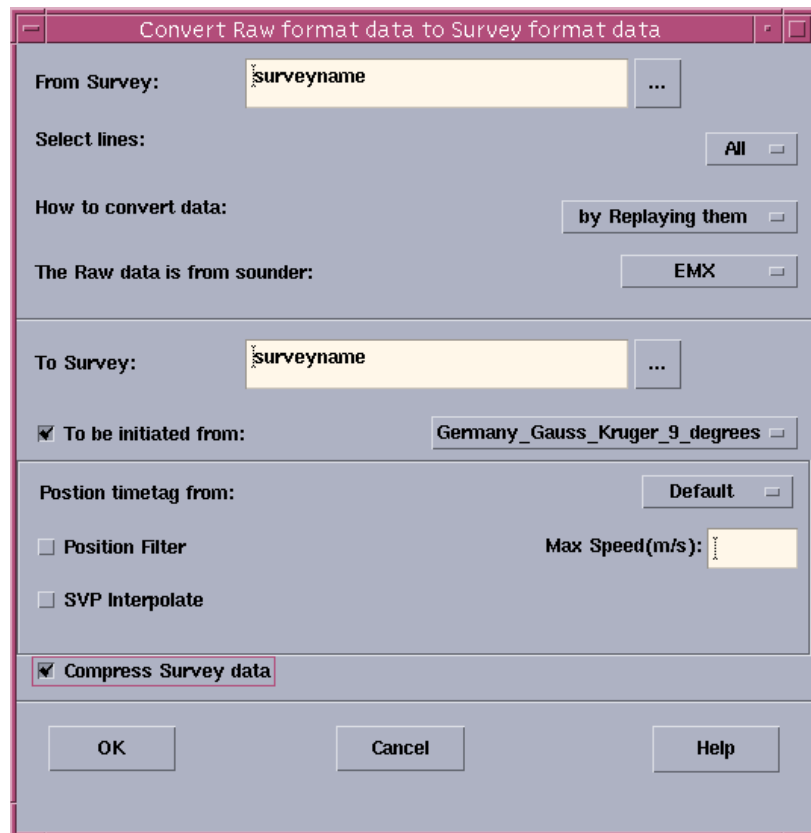

Figure 119 - The Replay dialogue box
- *The Replay dialogue box can be seen in figure 119 on page 339!*